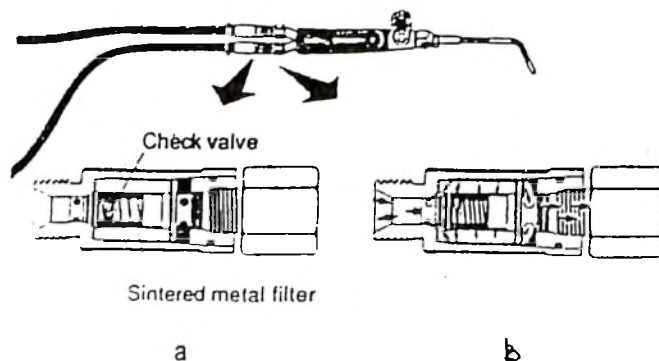
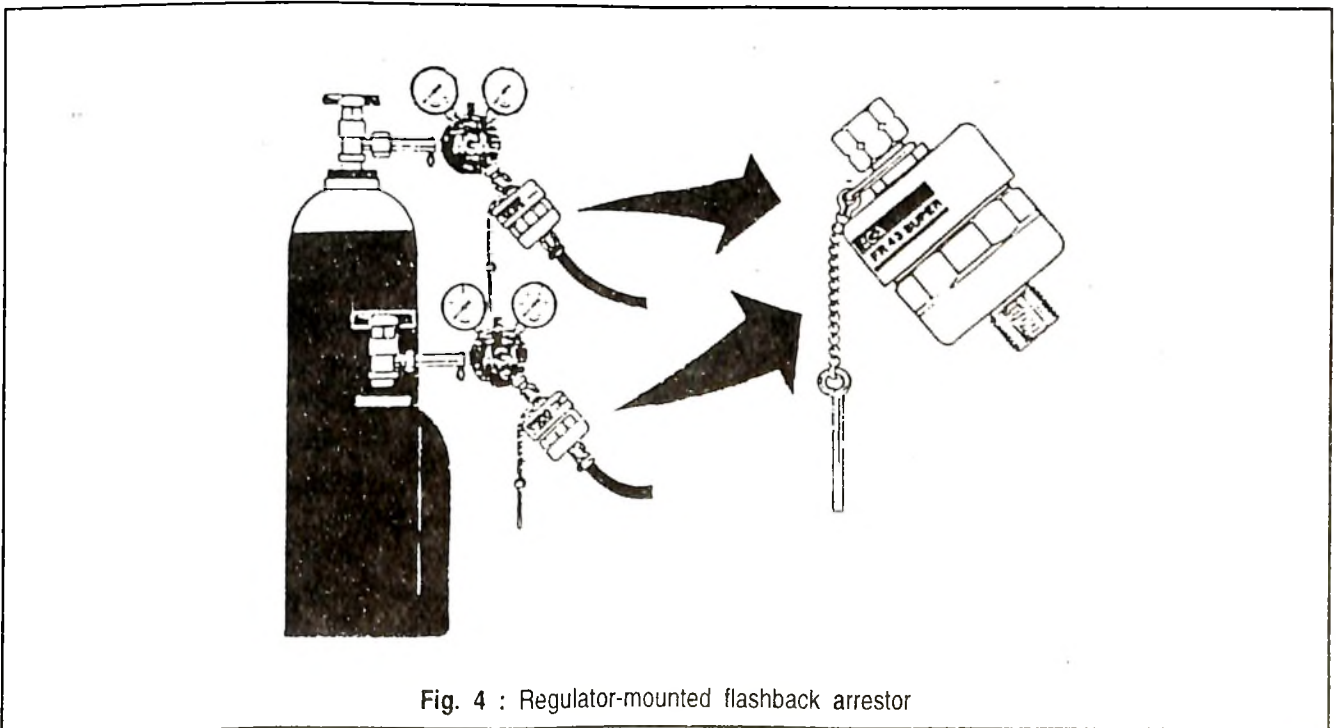

Fig. 3 : Torch-mounted flashback arrestor. (a) Check valve closed (b) Normal flow-check valve open
Fig. 4 : Regulator-mounted flashback arrestor
**Torch-mounted flashback arrestors** are, as the name implies, mounted straight onto the torch (Fig. 3), and have two functions. They stop the flame in the event of a backfire with the help of a flame arrestor, and they prevent reverse flow with the help of a built-in check valve. The flame arrestor consists of a sintered metal filter, normally of stainless steel. Gas can flow through, but a flame is extinguished due to the cooling effect. The thing to bear in mind when using torch-mounted flashback arrestors is that the flame arrestor causes a pressure drop and thus reduces the flow capacity. So first check what flow the application demands. Regulator-mounted flashback arrestors are mounted straight onto the regulator or outlet point (Fig. 4).